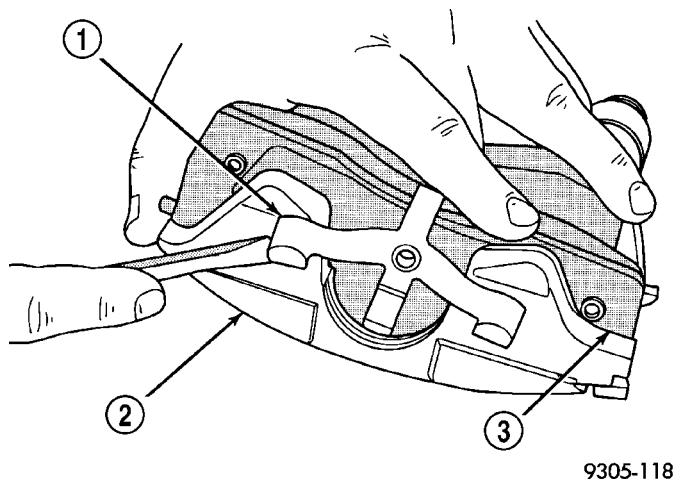

Fig. 14 Removing Outboard Brake Shoe
(6) Remove outboard brake shoe by prying the shoe retaining clip over raised area on caliper. Then slide the brake shoe off the caliper (Fig. 14).